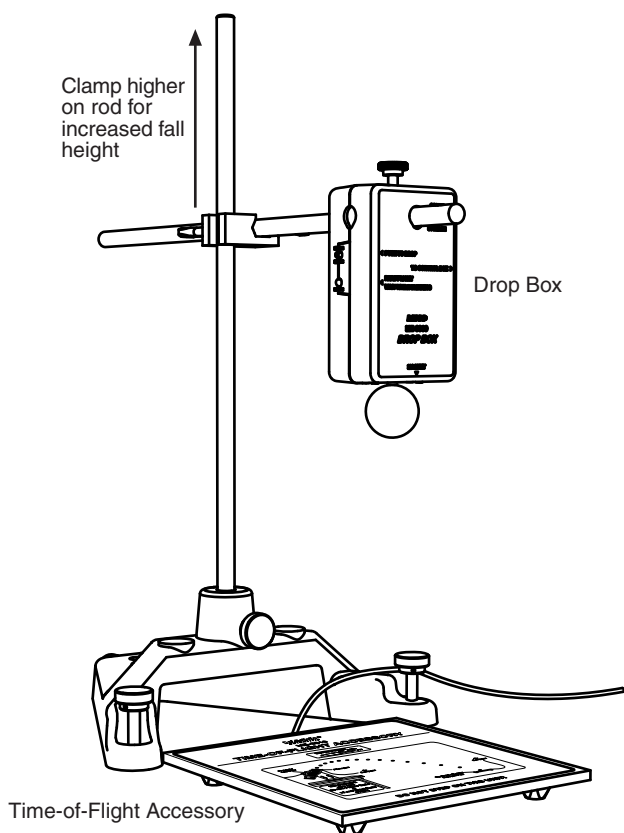

Figure 1: Drop box mounted on a rod stand
Mount the drop box on a horizontal rod attached with a right angle clamp to a tall rod. Figure 1 shows a typical setup using a rod stand (ME-8735), a 120 cm vertical rod (ME-8741), a 45 cm horizontal rod (ME-8736), and a right angle clamp (SE-9444). Any similar configuration will work just as well. For a greater fall height, place the rod stand on a table and the time-of-flight pad on the floor.
4. Mount the drop box as shown in Figure 1.